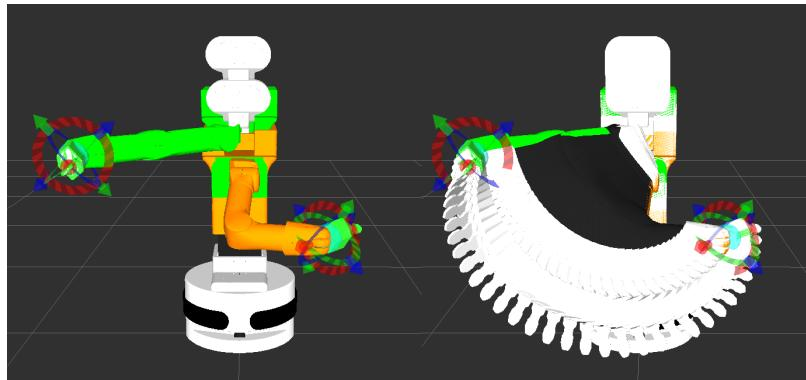

Figure 129: Sequence of plan
5. The sequence of images in figure 129 shows the result of clicking the “Update” goal pose with random inrviz, then clicking “Plan and Execute” in the simulator. Rviz will visualize the plan before executing.